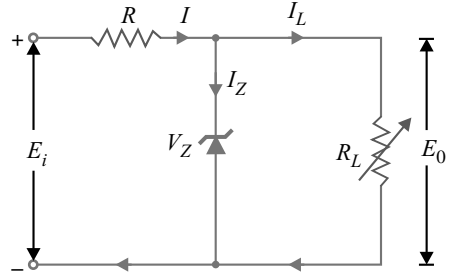

Fig. 4.68
**2. Fixed  $E_i$  and variable  $R_L$ .** This case is shown in Fig. 4.68. Here the applied voltage ( $E_i$ ) is fixed while load resistance  $R_L$  (and hence load current  $I_L$ ) changes. Note that there is a definite range of  $R_L$  values (and hence  $I_L$  values) which will ensure the zener diode to be in “on” state. Let us calculate that range of values.
\* If you remove the zener in the circuit shown in Fig. 4.68, then voltage  $V$  across the open-circuit is